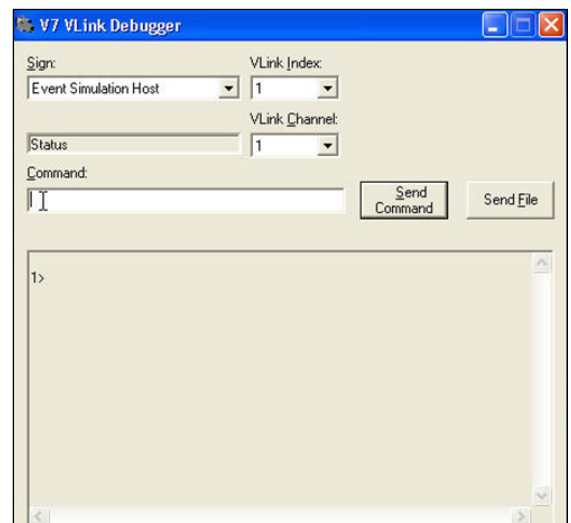

Figure 38: Completed Reboot
5. Allow a minute for the VIP to reboot, then click **Enter** while the cursor is in the **VLink Debugger Command** box. When **1>** appears in the readout window, the VIP has completed the reboot. Refer to **Figure 38**.